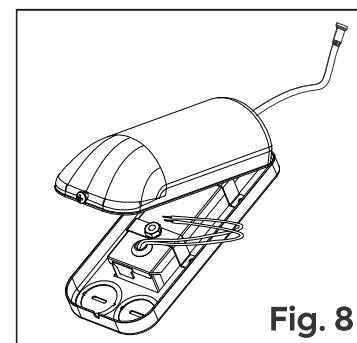

Fig. 8
Step 2: Remove wiring compartment cover. Remove the appropriate knock-out(s) to accommodate the type of electrical supply being used (**Fig. 8**). For flexible metal conduit or non-metallic sheathed cable, remove appropriate round knock-out(s) and connect conduit to junction box with proper connections (not supplied).
Step 3: Strip Supply wire 3/8" and insert each supply wire into appropriate connector. Connect black fixture wire to hot, white fixture wire to neutral, and green fixture wire to ground. (**Fig. 8**).